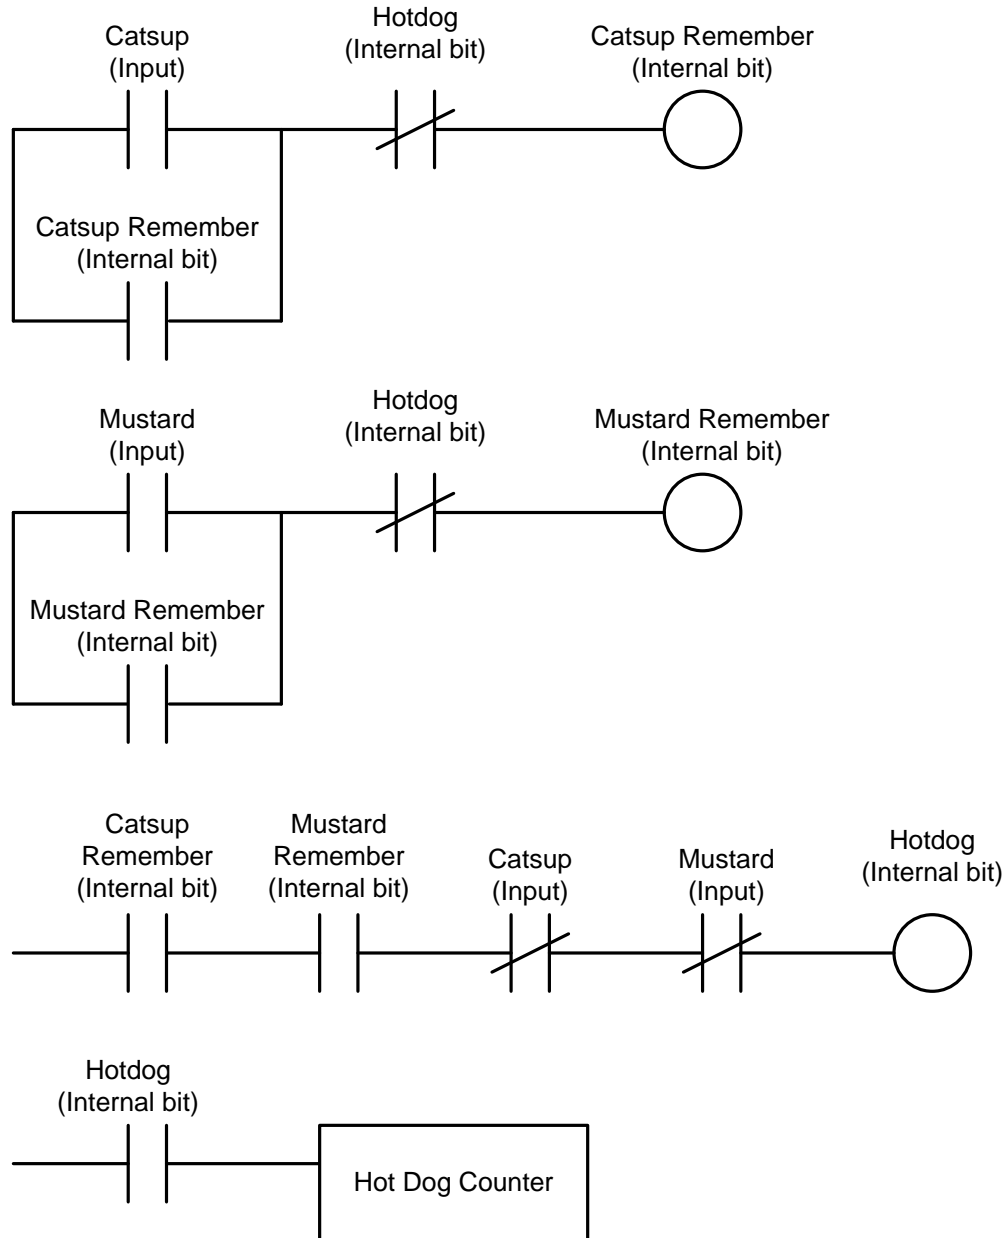

Fig. 4-53 Program to be Entered
1. \*In the program of Fig. 4-53, if input Catsup were changed from a NO contact to a NC contact, how would the program have changed to not change the function of the push button?
2. Would the program of Fig. 4-53 be significantly changed if the two N.C. contacts in the third rung were removed?
3. Where in the program of Fig. 4-53 could the copy/paste function have been used effectively?